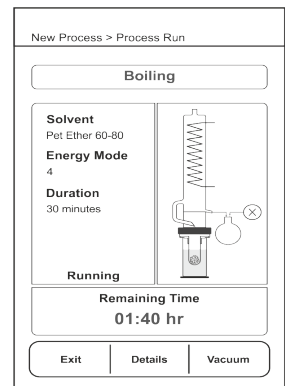

Fig. No. 27.3
f. **Process Run** (Ref. Fig. No. 27.3)